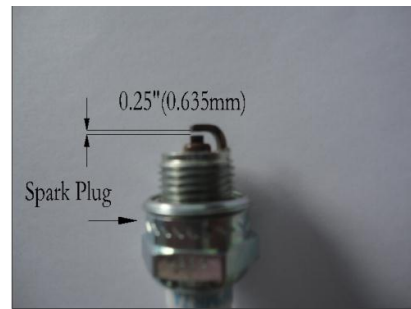

Fig.25
1. To remove spark plug(B)(Fig.25)for cleaning or replacement: make sure engine is off, spark plug is cool, then grasp spark plug boot firmly and remove from spark plug. Remove spark plug with correct spark plug tool. Inspect, clean or replace as needed.